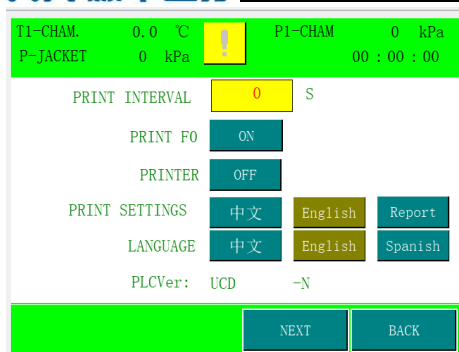

Fig. 9
- Administrator: On top of the supervisor's authority, some parameters of the program can be set. The system parameter settings are shown in Fig. 9 below. Parameters can be set for printing: printing time interval, whether F0 is printed, whether Chinese and English are printed, whether to print, and whether to print reports. Print trends are not standard for devices. Administrator permissions can change administrator, supervisor, and operator passwords (trend chart printing is not currently supported).